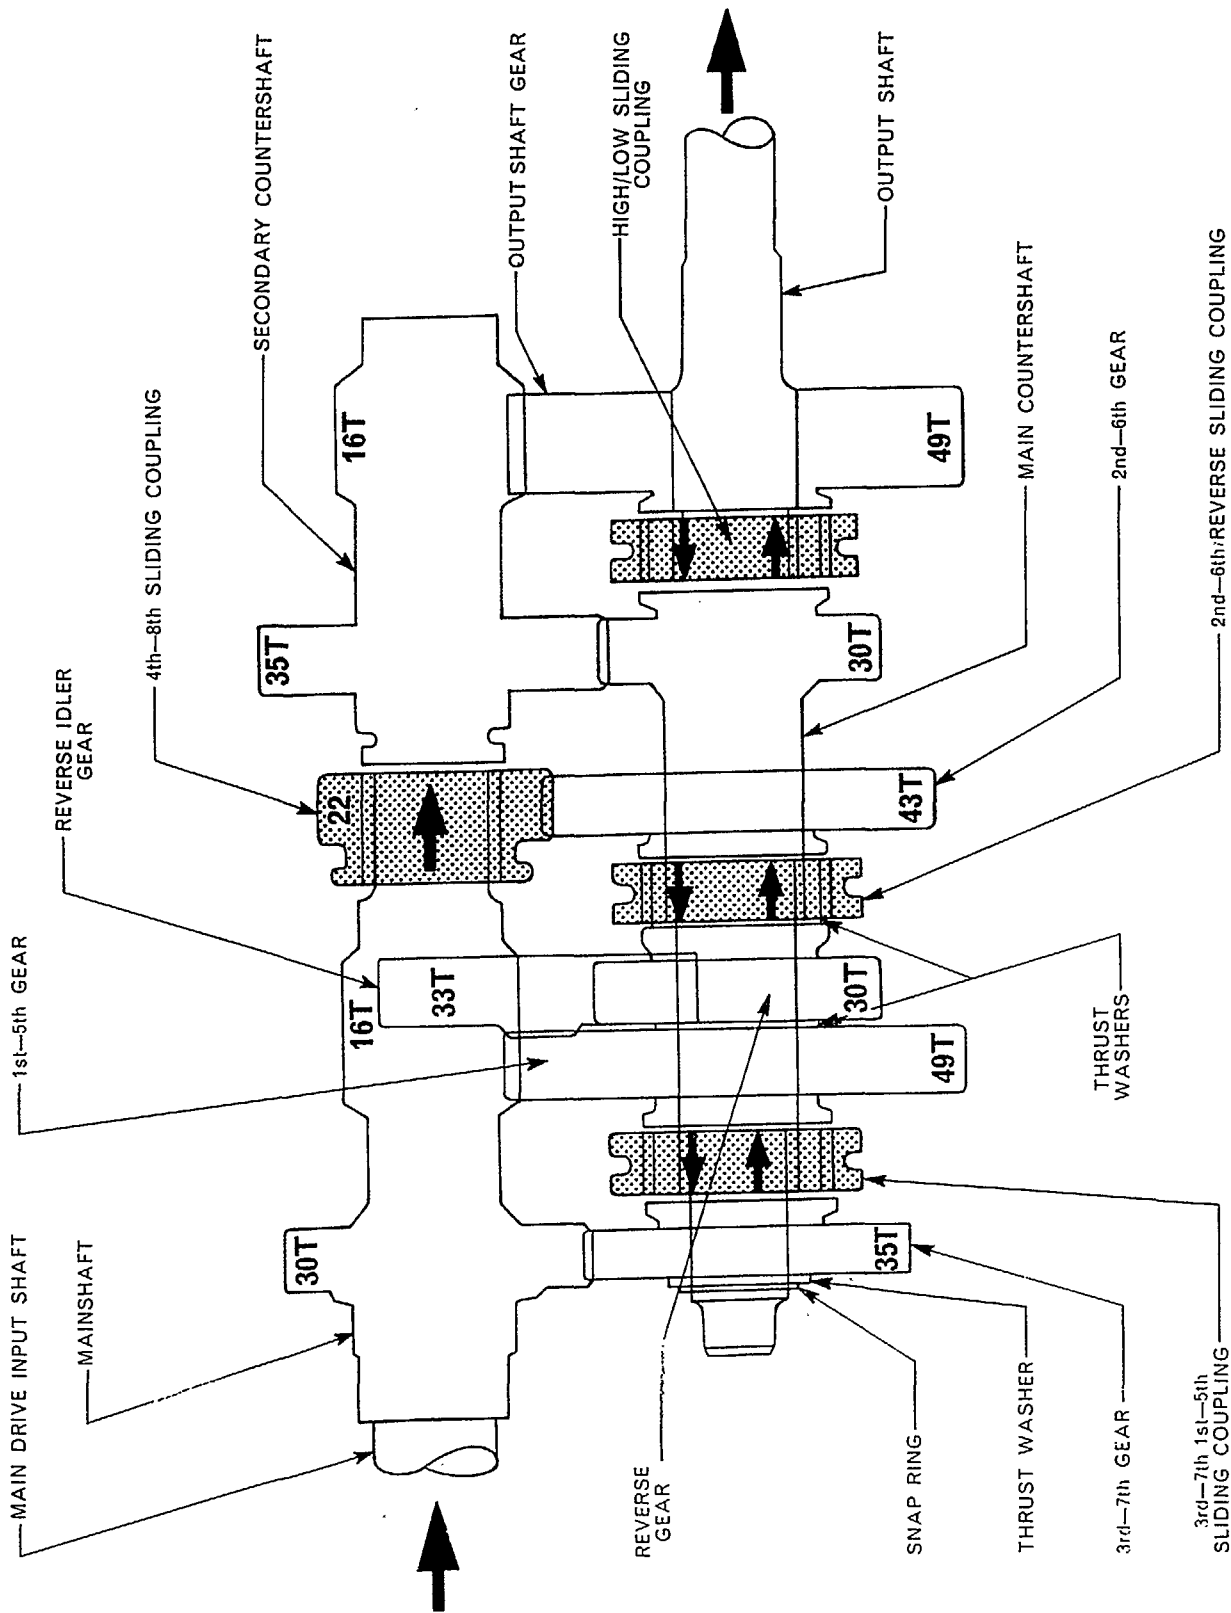

Figure 85
1. Pass the main countershaft through the rear compartment assembling the gears in the following sequence, Figure 85:—